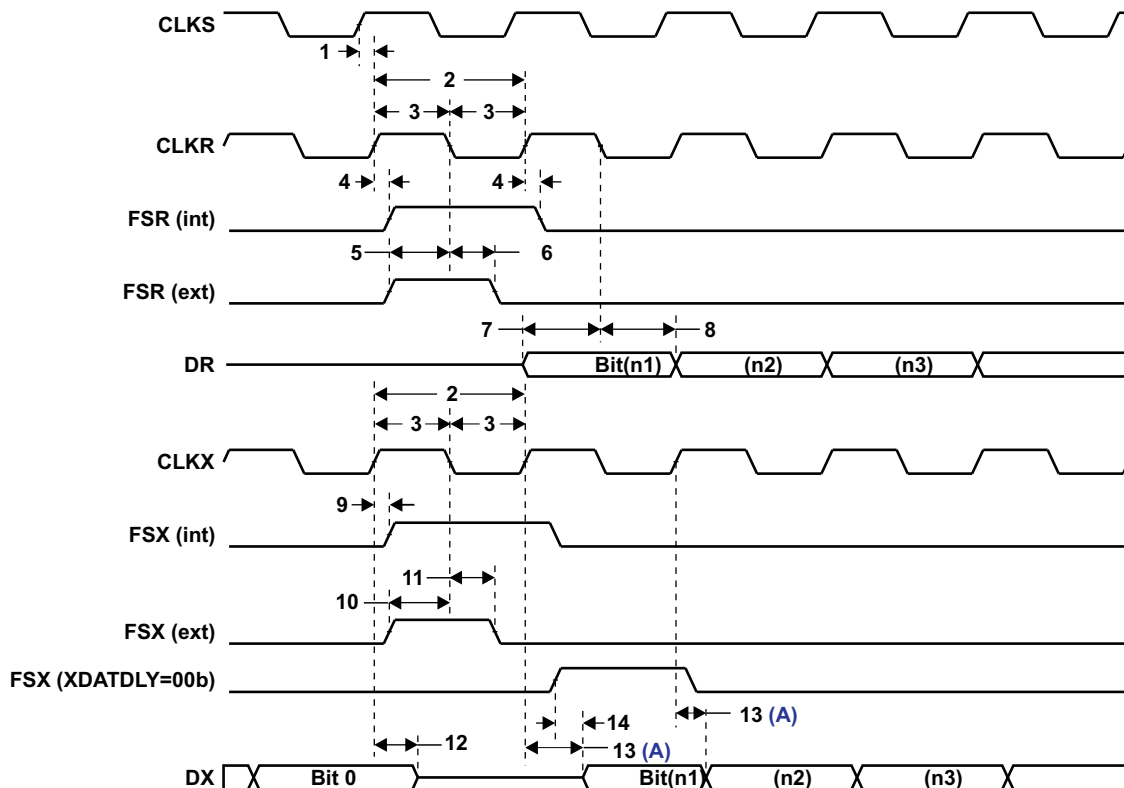

Figure 6-29. McBSP Timing(B)
- (1) CLKRP = CLKXP = FSRP = FSXP = 0. If polarity of any of the signals is inverted, then the timing references of that signal are also inverted.
- (2) P = AYNC3 period in ns. For example, when the ASYNC clock domain is running at 100 MHz, use 10 ns.
- (3) Use whichever value is greater. Minimum CLKR/X cycle times *must* be met, even when CLKR/X is generated by an internal clock source. The minimum CLKR/X cycle times are based on internal logic speed; the maximum usable speed may be lower due to EDMA limitations and AC timing requirements.
- (4) This parameter applies to the maximum McBSP frequency. Operate serial clocks (CLKR/X) in the reasonable range of 40/60 duty cycle.
**Table 6-45. Timing Requirements for McBSP1 [1.0V](1) (see Figure 6-29)**
(see Figure 6-29)